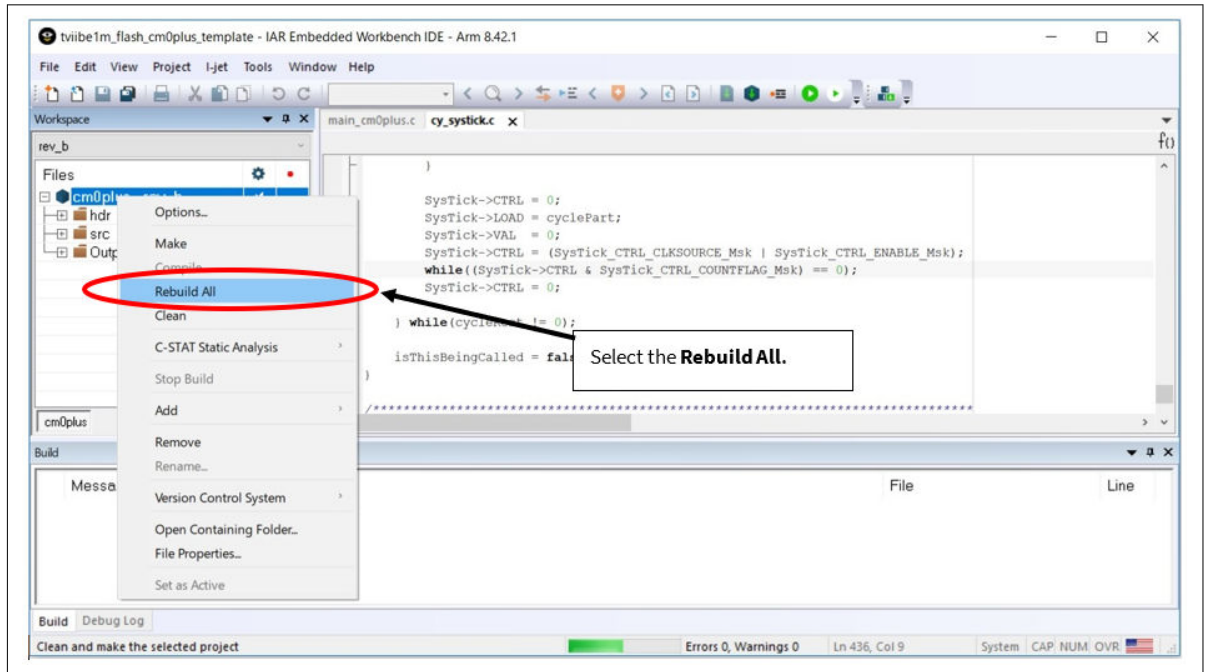
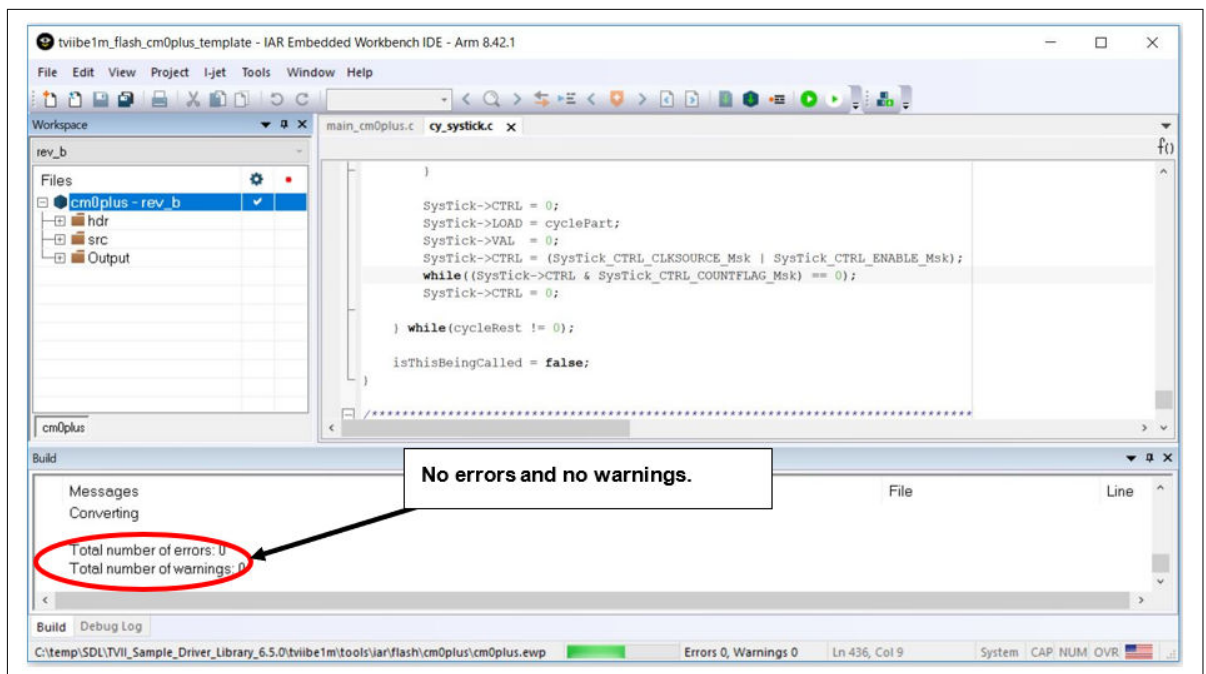

Figure 27 Rebuild the project of SDL project
Figure 28 Rebuild successful of the project of SDL project
- For the build, select *cm0plus.eww* on the workspace and right-click and select **Rebuild All** as shown in Figure 27. The Rebuild All process starts, and no errors and no warnings messages appear as shown in Figure 28.